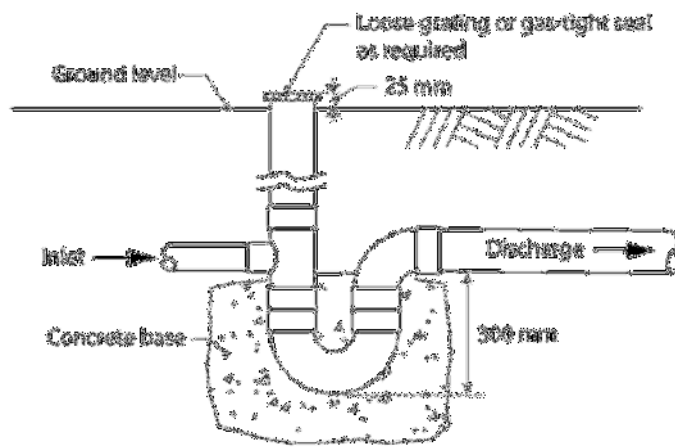

Fig. 3 Water Corporation Standard Design Industrial waste discharge point.
- 8 Entry to sewer must be via Water Corporation standard design industrial waste discharge point as illustrated in *Fig. 3*.